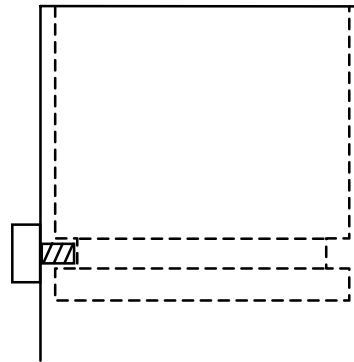

Figure 2-2: Flange Connection
5. If you are installing a swivel arm, run the string that is attached to the cables through the arm. Lubricate the flanged end of the swivel arm. Then place the flanged end of the arm into the opening at the top of the column. Tighten the screw at the side of the column so that it fits into the groove in the flange (see Figure 2-2). The screw should be loose enough to allow the arm to turn freely.